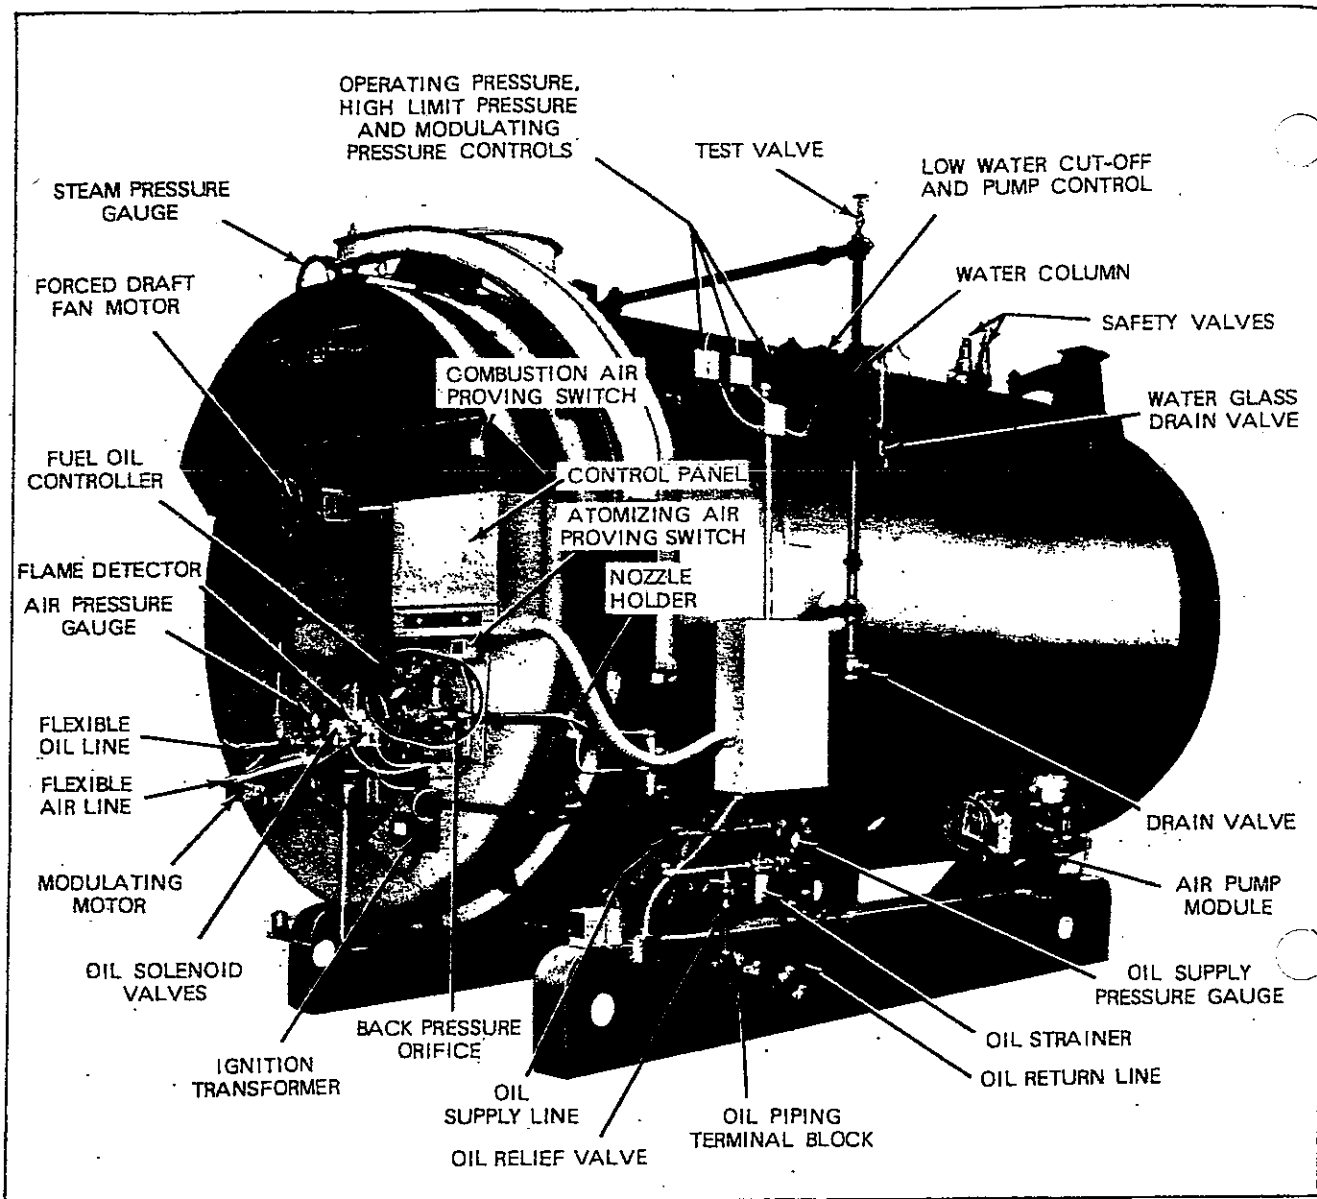

FIGURE 1-1 TYPICAL STEAM BOILER - LIGHT OIL FIRED
- (1) Forced Draft Fan Motor (figure 1-1): Drives forced draft fan directly to provide combustion air. Also referred to as a blower motor.
- (4) Ignition Transformer (figure 1-1): Provides high voltage spark for ignition of gas pilot or light oil pilot.
- (5) Modulating Motor (figure 1-1): Operates the rotary air damper and fuel valves through a cam and linkage system to provide proper air-fuel ratios under all boiler load conditions.
- 12c) Lockout Switch (LS): Trips in the event of failure to ignite the pilot or main burner flame, or on loss of flame. Additionally, on a CB-40 control, lock-out will occur upon the opening of inter-locks or a flame simulating condition during the programmer's checking period. A short cooling period is required before it can be reset. CAUTION. The reason for any lockout should be investigated and corrected before attempting to re-start.
- (13) Flame Detector: (figure 1-1): Monitors gas or oil pilot and energizes the programmer's flame relay in response to a flame signal. It continues to monitor main flame (oil or gas) after expiration of pilot proving period. A standardly equipped boiler has a lead sulfide (infrared sensitive) detector.
- (14) Combustion Air Proving Switch (figure 1-1): A pressure sensitive switch actuated by air pressure from the forced draft fan. Its contacts close to prove presence of combustion air. The fuel valves can not be energized unless this switch is satisfied.
- (15) Alarm (not shown): Sounds to notify the operator of a condition requiring attention. The alarm is available as optional equipment.
- (16) Stack Thermometer (figure 1-1): Indicates temperature of vented flue gases.
(1) Steam Pressure Gauge (figure 1-1): Indicates boiler's internal pressure.
(2) Operating Limit Pressure Control (figure 1-1): Breaks a circuit to stop burner operation on a rise of boiler pressure above a selected setting. It is adjusted to stop or start the burner at a preselected pressure setting.
(3) High Limit Pressure Control (figure 1-1): Breaks a circuit to stop burner operation on a rise of pressure above a selected setting. It is adjusted to stop the burner at a preselected pressure above the operating limit control setting. This control is normally equipped with a manual reset.
(4) Modulating Pressure Control (figure 1-1): Senses changing boiler pressures and transmits this information to the modulating motor to change the burner's firing rate when the manual-automatic switch is set on automatic.
(5) Low Water Cutoff and Pump Control (figure 1-1): This float-operated control responds to the water level in the boiler. It performs two distinct functions:
(8) Water Column (figure 1-1): This assembly houses the low water cutoff and pump control and includes the water gage glass, gage glass shutoff cocks, and trycocks.
(9) Water Column Drain Valve (figure 1-1): The water column drain valve is provided so that the water column and its piping can be flushed regularly to assist in maintaining cross-connecting piping and float bowl clean and free of sediment. A similar drain valve is furnished with auxiliary low water cutoff (optional equipment) for same purpose.
(10) Water Gage Glass Drain Valve (figure 1-1): This valve is provided to flush the gage glass.
(11) Test Valve (figure 1-1): This valve allows the boiler to be vented during filling, and facilitates routine boiler inspection.
(12) Safety Valve(s) (figure 1-1): Safety valves relieve the boiler of pressure higher than the design pressure or a lower pressure, if designated. Safety valves and their escape piping shown in figure 1-9 are to be installed to conform to the ASME code requirements.
(2) Atomizing Air Proving Switch (figure 1-1): Pressure actuated switch whose contacts are closed when sufficient atomizing air pressure from the air pump is present for oil firing. Oil valve(s) will not
(3) Air Pump Module (figure 1-1 and 7-7): This assembly provides the compressed air required to atomize the fuel oil for proper combustion. It is started automatically by the programmer's sequence. It includes components described below.